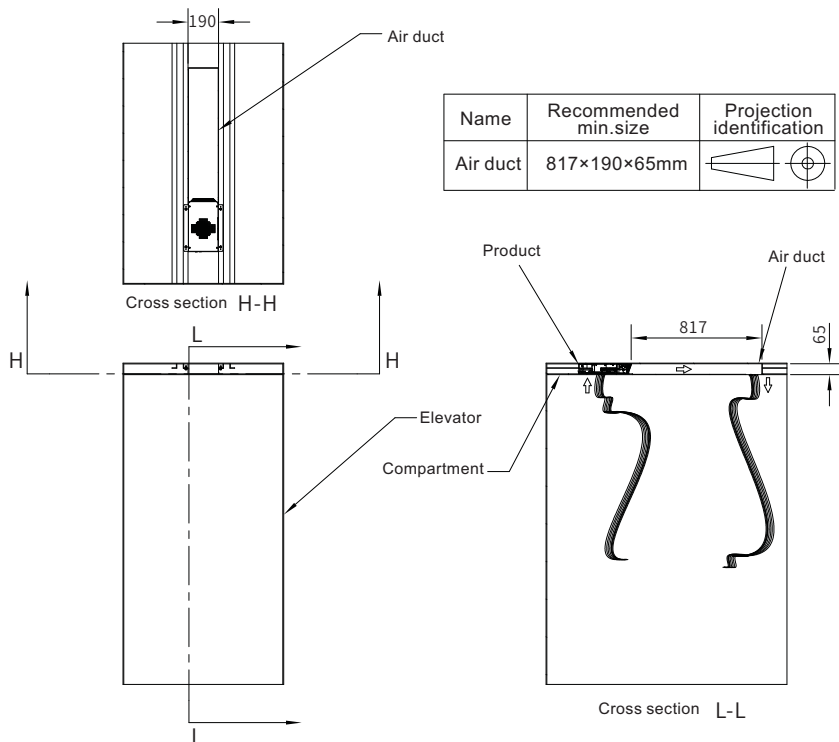

Figure 6.15 Schematic diagram of recommended min. size of air duct
(2) The recommended min. size of air duct is shown in Figure 6.15.